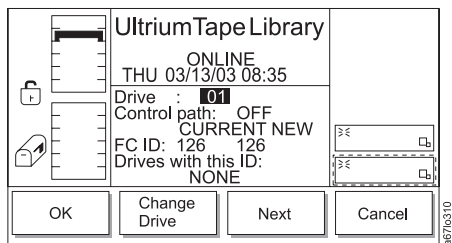

Figure 4-48. FC/SCSI Submenu
3. Press the button below the **FC/SCSI** softkey. The FC/SCSI submenu displays (see Figure 4-48). The submenu gives the settings for the selected Fibre Channel drive. The value of the current drive displays in the Drive: field. The Control path field indicates whether the drive is a control path. Valid values are OFF or ON.